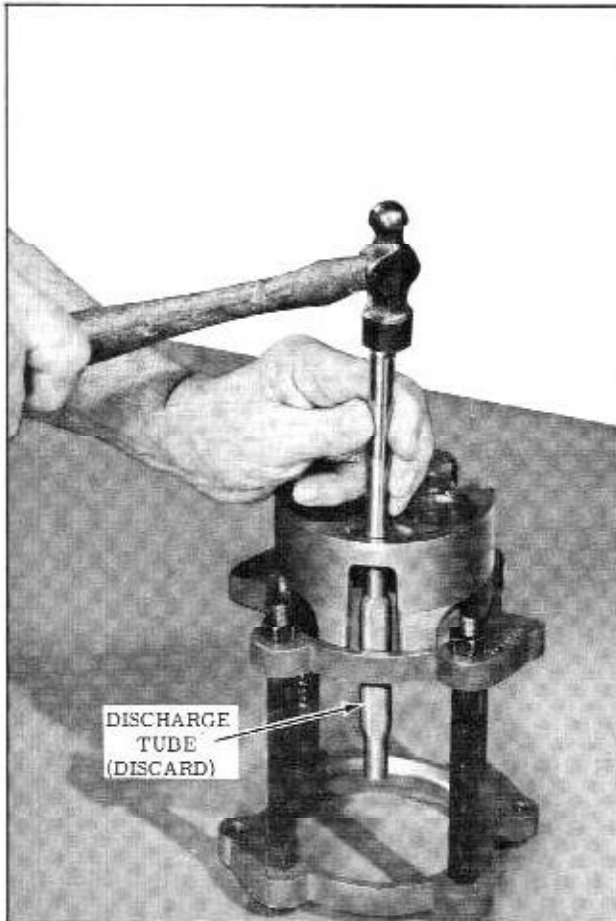

Fig. 14-47 Removing Discharge Tube
4. Remove and discard the discharge tube. (Fig. 14-47)